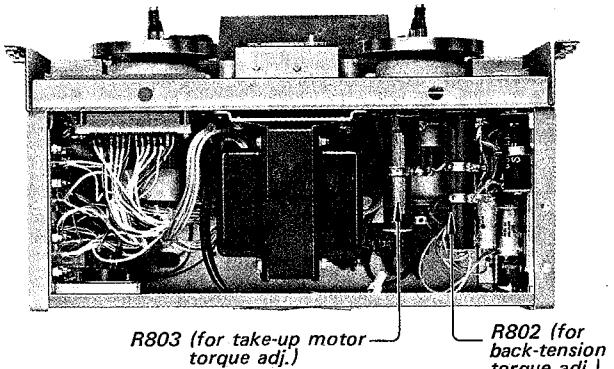

Fig. 3-1-9. Adjusting parts location for reel motor torque adjustment
(1) Place the reel with string wound several turns clockwise on the hub (44 mm dia) onto the Take-up Reel Table. Tie the string to the spring scale.
(2) Set the unit to the play mode. Pull the spring scale and then allow to take up the string on the reel while approaching the scale to the reel at the same speed of tape running. Adjust R803 by sliding the band for 260 to 280 g-cm (3.6 to 3.9 oz-inch) on the spring scale. See Fig. 3-1-9.
- (1) Place the empty hub with string wound several turns counterclockwise on the hub (44 mm dia) onto the Supply Reel Table. Tie the string to the spring scale.
- (2) Set the unit to the play mode. Pull the spring scale at the same speed of tape running. Adjust R802 by sliding the band for 240 to 280 g-cm (3.3 to 3.9 oz-inch) on the spring scale. See Fig. 3-1-9.